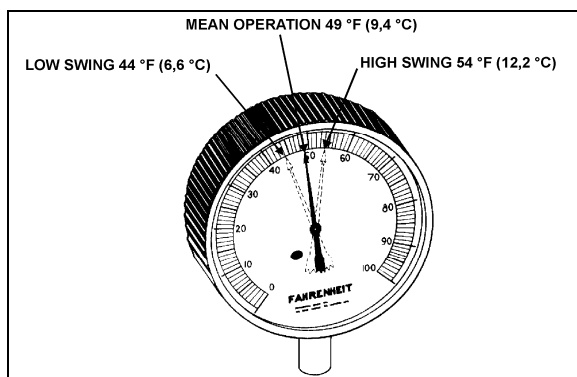

FIGURE 34: HIGH & LOW SWING TEMPERATURE AT REMOTE BULB 22047
6. Check approximately 5 readings of pressure at 2-minute intervals and convert to temperature using the temperatures & pressures table (page 33). Likewise check the temperature reading at the remote bulb at the same 2-minute intervals and record the low and high swing readings of the needle (refer to Fig. 34).
Example of readings taken at fig. 34: